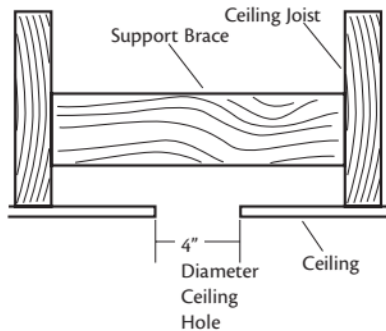

Figure 6 - Cutting the ceiling hole
2. Cut a 4" diameter hole through the drywall or plaster of the ceiling as shown in Figure 6. You will use the hole to install the support brace and outlet box.